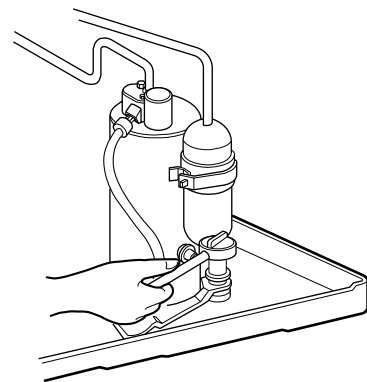

Figure 11
4. Remove the 3 nuts and the 3 washers which fasten the compressor. (See Figure 11)